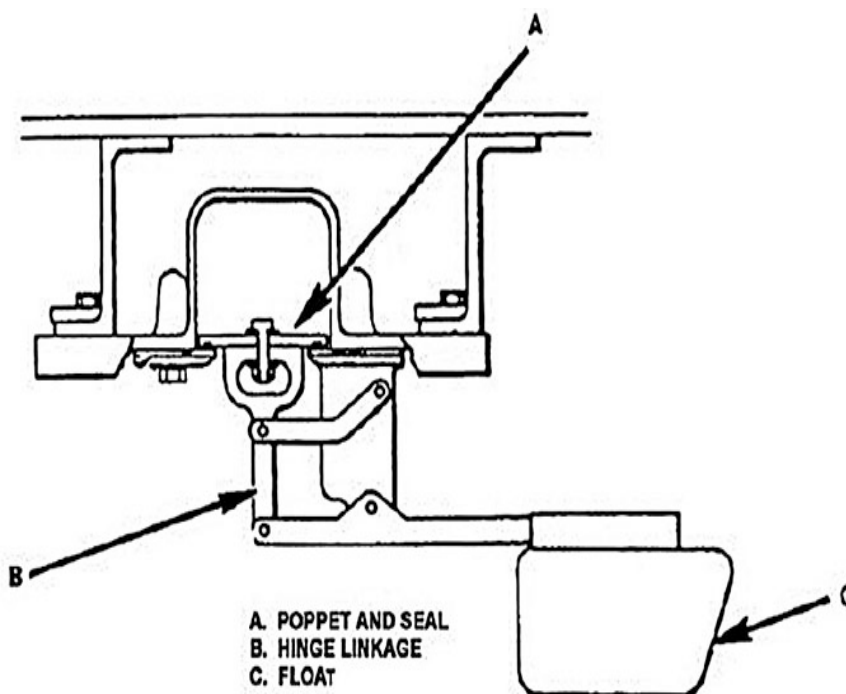

Figure 5-2. Vent float valve (CLOSED position).
flows to the aft portion of the tank, the hinge linkage (B) and the float (C) rise with the fuel level to seat the poppet (A). During level flight conditions or when the aircraft is on the ground, the float should be in the LOWERED position, as shown in figure 5-2. This position will allow ambient air to enter and leave the tank through the vent opening.